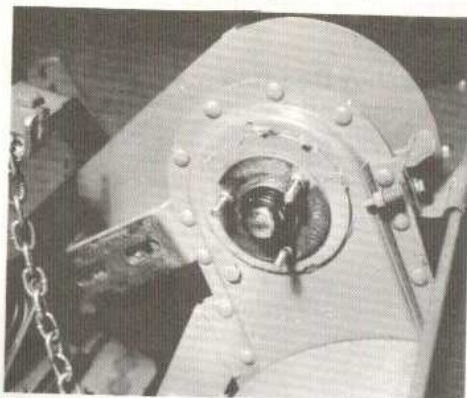

FIG. 50
3. Loosen setscrew on locking collar, Fig. 50, and turn collar in opposite direction of shaft rotation to loosen. Remove collar.
4. Remove 3 inner nuts and remove outer bearing flange, Fig. 50.